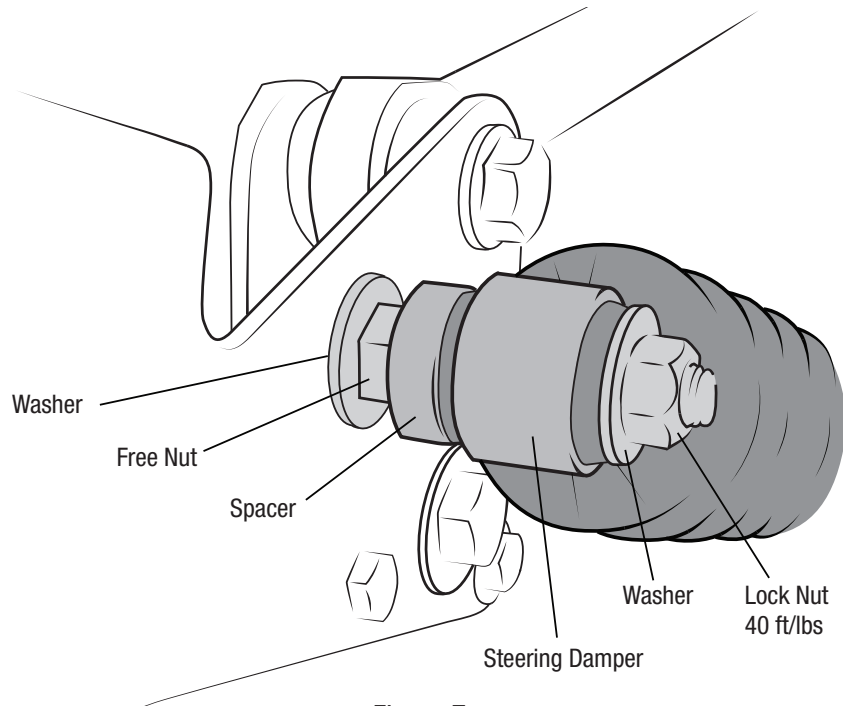

Figure 7
3. Attach the damper to the new High Steer axle bracket orienting the hardware as shown (Fig. 7).
4. To position the tie rod bracket properly, extend or compress the damper until the eye to eye length is 16 1/2". Making sure the steering is straight ahead, rotate the tie rod bracket until the stud is pointing just forward of straight up while the tie rod itself is rocked "down" as far as it will go. Tighten the mounting bracket at this location. Torque the lock nut (see Fig. 7 below) to 40 ft/lbs.